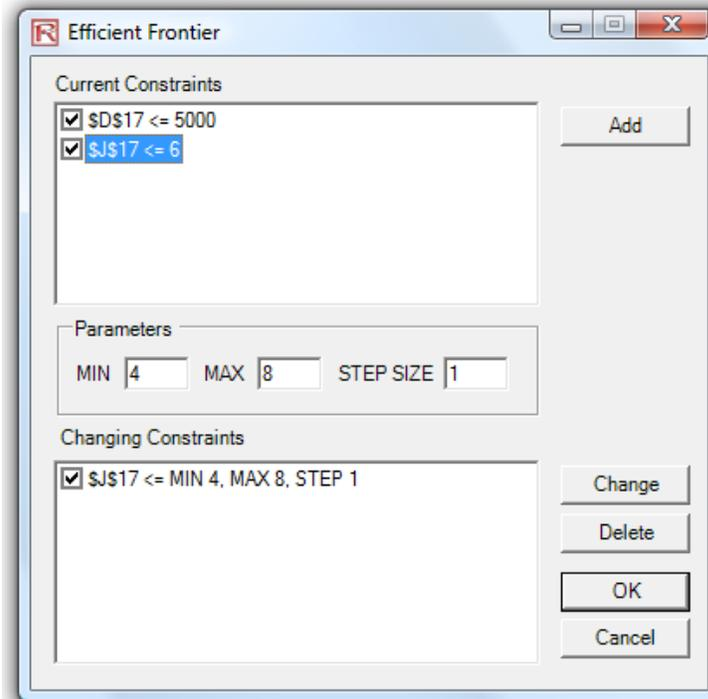

Figure 1. Generating Changing Constraints in an Efficient Frontier
Figure 1 shows the efficient frontier constraints for optimization. You can get to this interface by clicking on the *Efficient Frontier* button *after* you have set some constraints. You can now make these constraints changing. That is, each of the constraints can be created to step through between some minimum and maximum value. As an example, the constraint in cell J17 ≤ 6 can be set to run between 4 and 8 (Figure 1). That is, five optimizations will be run, each with the following constraints: J17 ≤ 4 , J17 ≤ 5 , J17 ≤ 6 , J17 ≤ 7 , and J17 ≤ 8 . The optimal results will then be plotted as an efficient frontier and the report will be generated (Figure 2). Specifically, following are the steps required to create a changing constraint:
2. Select the constraint you want to change or step (e.g., J17), enter the parameters for *Min*, *Max*, and *Step Size* (Figure 1), and click *ADD*, then *OK*, and *OK* again. You should deselect the D17 ≤ 5000 constraint before running.